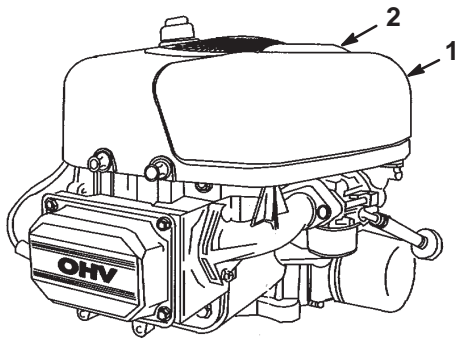

Figure 23
- Pull up on the air cleaner cover handle and rotate it toward the engine (Fig. 23).